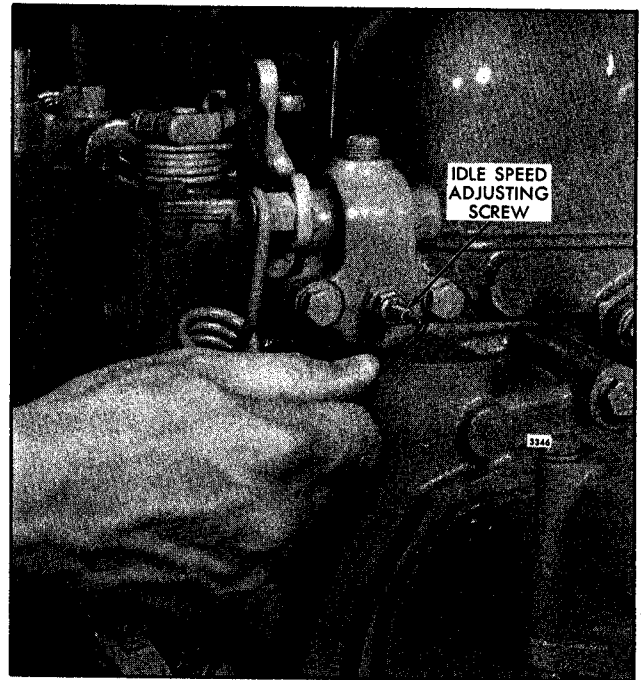

Fig. 4 - Adjusting Idle Speed
2. With the engine operating, loosen the lock nut and turn the idle speed adjusting screw (Fig. 4) in or out until the engine idles at the recommended speed. The recommended idle speed is 500 rpm for engines operating up to 2500 rpm or 550 rpm for engines operating at higher speeds. However, the idle speed may vary with special engine applications.